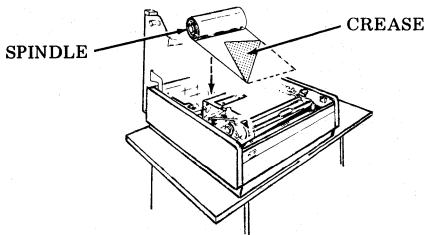

Fig. 50—Paper Forming Prior to Installation
9.02 Insert spindle in new roll; crease end of paper as shown and install paper roll into printer enclosure (Fig. 50).